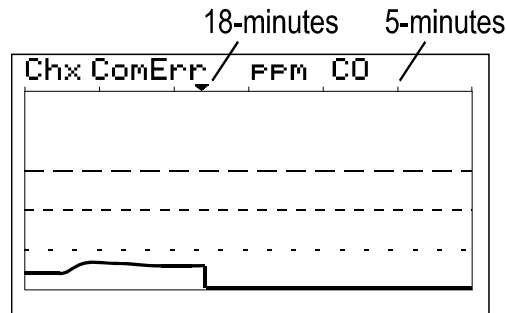

Figure 5.4
- **Communications Error** – Each channel’s 30-minute trend screens (Figure 5.4) are very useful for diagnosing wireless problems since it indicates amount of time since the most recent transmission was received. The down arrow on top of the trend screen resets to far right each time a transmission is received by that channel. When not in alarm, BFT-48/RFs transmit each 5-minutes so the arrow should never progress past the 5-minute interval. The BFC-4 activates the channel’s **FAULT** alarm and indicates **ComErr** if no transmission has been received in 18 consecutive minutes.